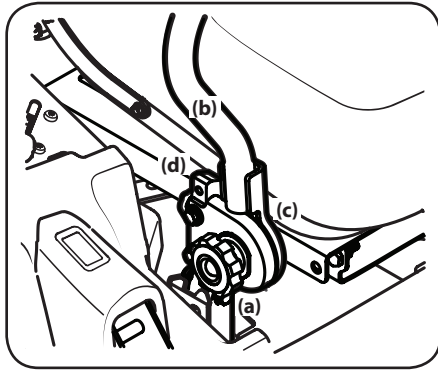

Figure 4-8
1. Loosen the control lever knob (a) on the side of the drive control lever (b). See Figure 4-8.
3. Secure in place by tightening the control lever knob (a). See Figure 4-8.